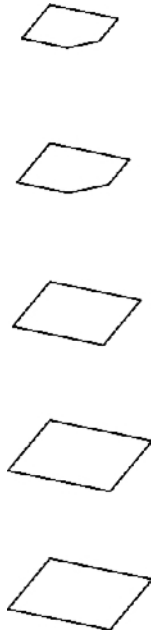

Figure 7.26
6. Select the five shapes (Figure 7.26), verify that you've selected all segments of the shapes, and then choose Create Form from the Form panel. You can Ctrl-click or use a window or crossing window to select the shapes.